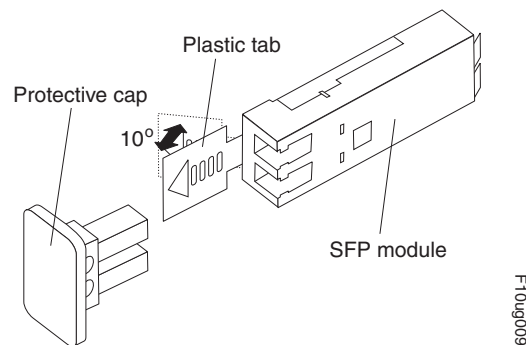

Figure 28. Unlocking the SFP module latch - plastic variety
- For SFP modules that contain plastic tabs, unlock the SFP module latch by pulling the plastic tab outward 10°, as shown in Figure 28.